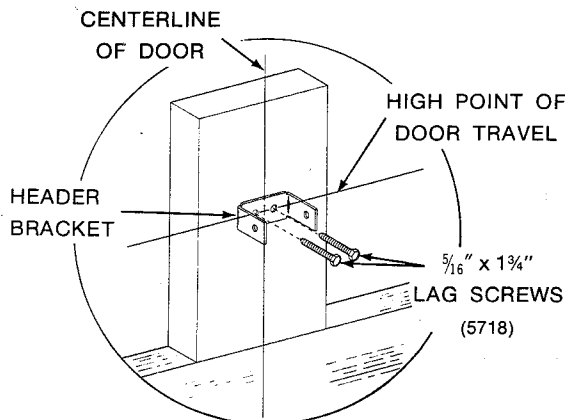

FIGURE 3.
- 3.) Locate header bracket mounting holes at high point of door travel and center directly on the centerline mark. Attach header bracket to header using two (2)  $\frac{5}{16}$ " x  $1\frac{1}{4}$ " lag screws. Be sure header bracket is level. (See Figure 3.)